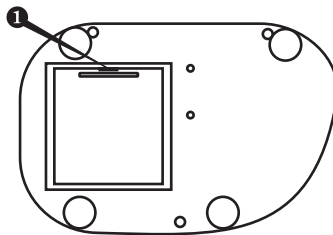

Fig.1 Bottom scheme
- Insert a sharp pin into the small socket according to the fig.1/① on the underside and open the battery compartment.